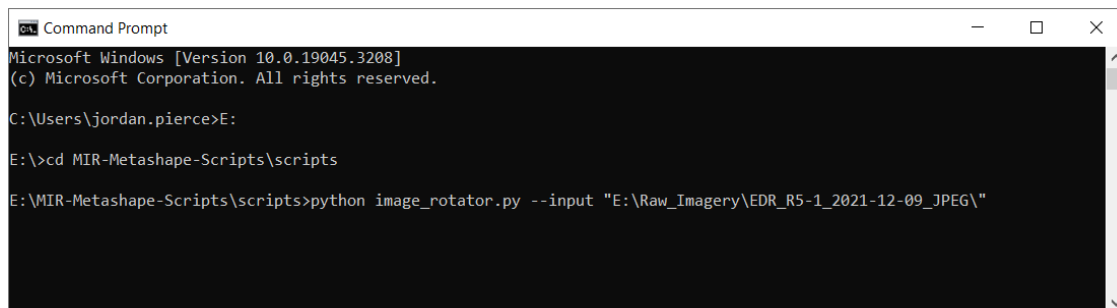
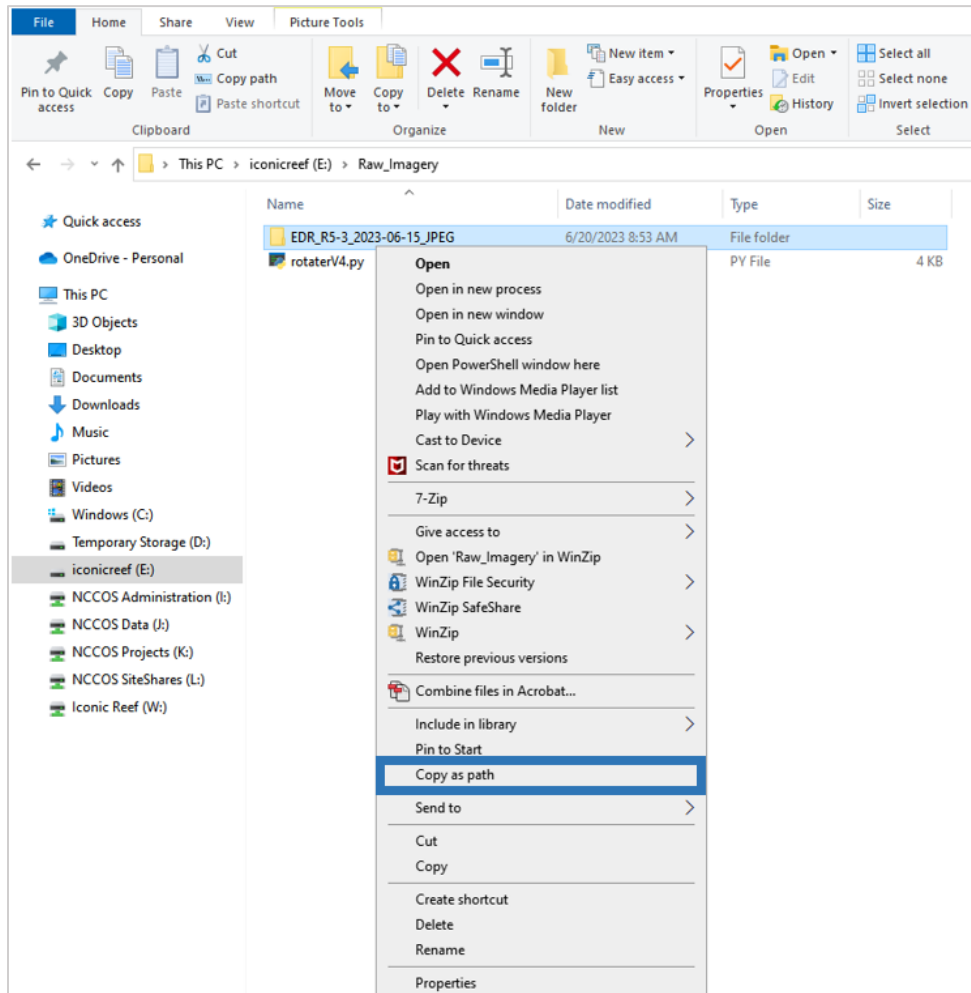

Figure 5. Command Prompt window showing correct inputs described in steps A–C.
Figure 6. File Explorer window showing context menu containing `Copy as path`.
- A. Navigate to the folder containing the script. If necessary, first change the working drive by typing the drive letter into the Command Prompt (e.g., C drive to the E drive; Figure 5). The Command Prompt will reflect the change to the designated working drive (e.g., E:\>).
of the script (i.e., `image_rotator.py`), followed by the file path for the image folder (e.g., `E:\Raw_Imagery\SOMB_R2-2_2022-08-25_JPEG`) as an input argument. Press Enter to execute the script (Figure 5). For convenience, copy the file path for the image folder by using Shift + right-click over the image folder to open the context menu and select `Copy as path` (Figure 6).